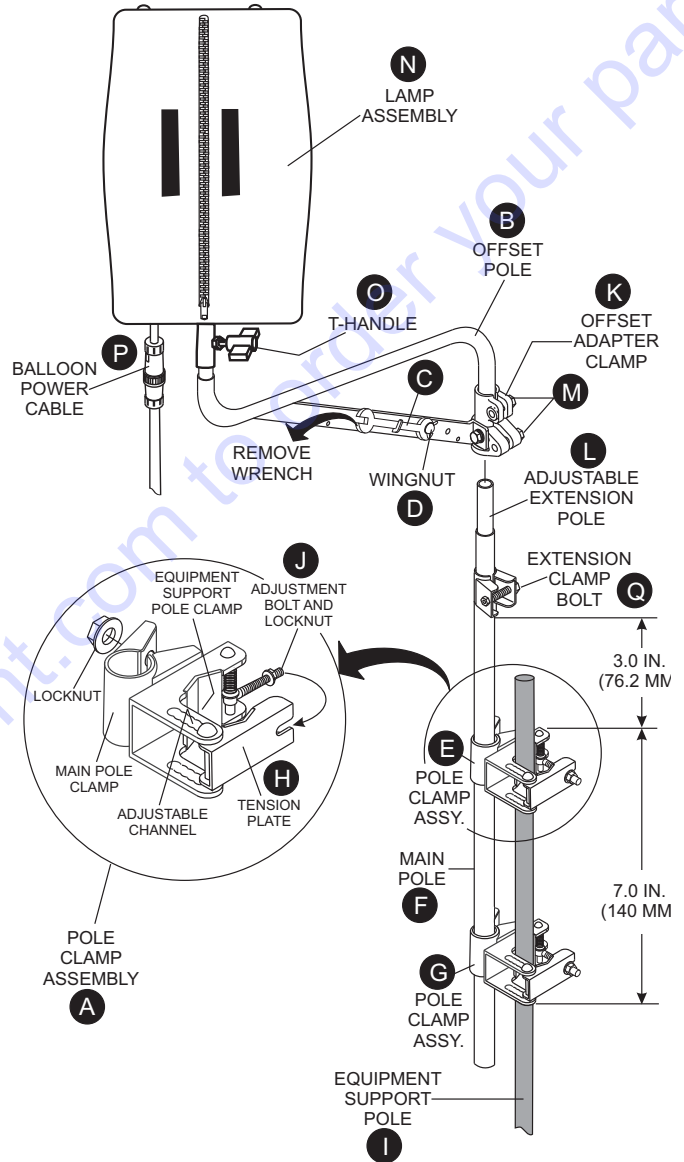

Figure 6. Offset Pole Assembly
Refer to Figure 6 for the following procedure.
1. Remove the offset pole (B) from the shipping container.
2. Attached to the offset pole is a 17/19 mm open-end wrench (C). Remove the wingnut (D) securing the wrench to the offset pole and remove wrench.
4. Remove the two pole clamp assemblies (A) from the shipping container. Attach one pole clamp assembly (E) to the main pole (F) about 3 inches (76.2 mm) down from the main pole extension clamp. Using supplied 19 mm wrench, tighten locknut on the pole clamp assembly securely.
5. Attach the other pole clamp assembly (G) to the main pole (F) about 7.0 in. (140 mm.) down from the previous attached pole clamp assembly (E). Using the 19 mm wrench, tighten locknut on the pole clamp assembly securely.
6. To attach main pole (F) to equipment support pole (I), swing open adjustable tension plate (H) on clamp so that it can accommodate the diameter of the equipment support pole. Insert equipment support pole (I) through the two equipment support pole clamp assemblies as shown in Figure 6.
7. Once the equipment support pole (I) has been seated properly, move adjustment bolt and locknut (J) into locking position. Use the supplied 17 mm wrench, to tighten locknuts (J) on both clamps securely.
8. Place offset pole (B) with adapter clamp (K) on top of adjustable extension pole (L). Make sure that offset pole has been seated correctly.
9. Using 17 mm wrench, tighten both bolts (M) on the offset adapter clamp (K) securely.
10. Place lamp assembly (N) onto offset pole (B). Tighten T-handle bolt (O) securely.
1. Before raising the extension pole, make sure the T-handle bolt lock (Figure 6-O) is securely tightened. This will prevent the balloon/lamp assembly from falling off. In addition make sure that the lamp power cable is connected to the mating end of the power source cable.
2. Raise extension pole (Figure 6-L) to desired height. Watch out for any overhead obstructions.
3. Using 19 mm wrench, tighten extension clamp bolt (Figure 6-Q) securely. Keep wrench in a safe place where it will not get lost.
1. Using the supplied 19 mm wrench, loosen extension clamp bolt (Figure 6-Q).
2. Carefully pull down on the adjustable extension pole (Figure 6-L) and lower lamp assembly.
3. Remove wingnut (Figure 6-D) from offset pole (Figure 6B) and insert wrench into wrench holder. Reinsert wingnut and tighten.
5. Loosen T-handle bolt (Figure 6-O) by turning counterclockwise and remove lamp assembly (Figure 6-N) from offset pole.